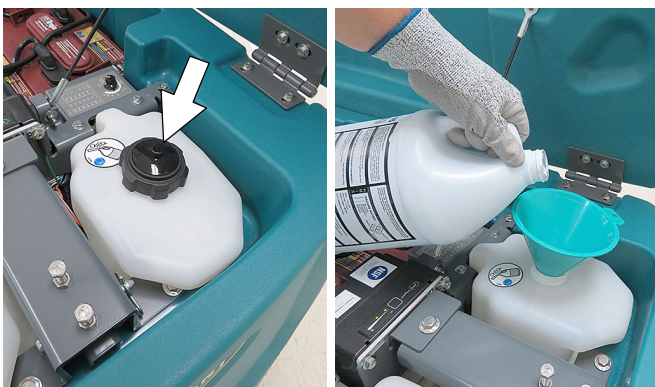

FIG. 24
2. Remove black cap from detergent tank and add a recommended cleaning detergent at full concentration (Figure 24). Do not add water. Use a funnel to prevent splashing liquid on scrub head motors below.